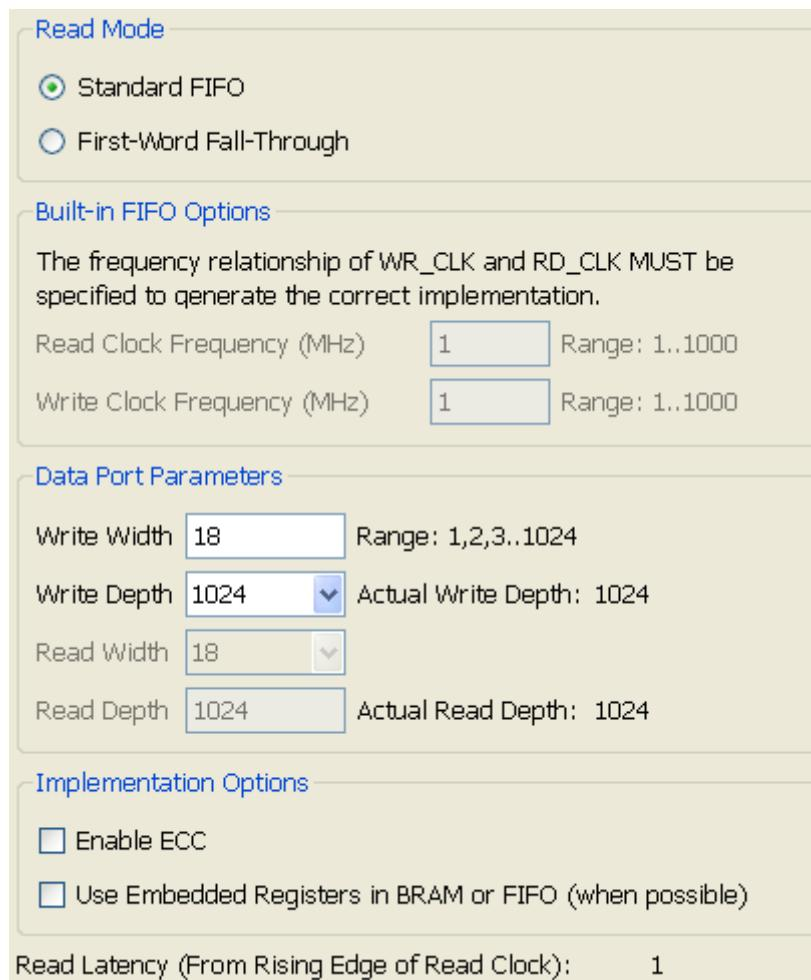
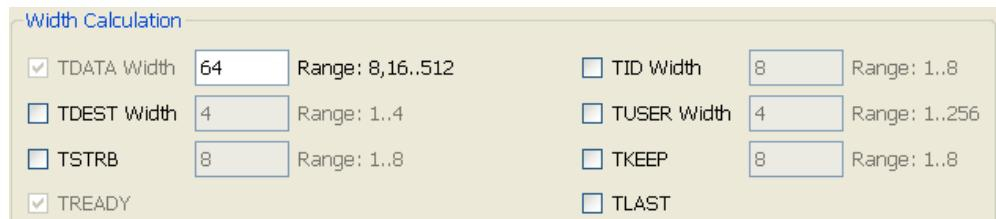

Figure 8-5: Native Interface FIFO: Page 2 - Read Mode, Built-In FIFO, Data Port Parameters and Implementation Options
Figure 8-6: AXI4 Interface FIFO: Page 3 - Write Width Calculation
Figure 8-5 shows the Native Interface FIFO Page 2 screen to set the read mode, built-in FIFO options, data port parameters, and implementation options.
Figure 8-6, Figure 8-7 and Figure 8-8 show the equivalent settings of Figure 8-5 in the AXI4-Stream GUI.
- Write Width of Native FIFOs can be set through TDATA Width on Page 3 of the AXI4-Stream FIFO GUI, as shown in Figure 8-6. If the Write Width is > 512, then TUSER Width can be used.